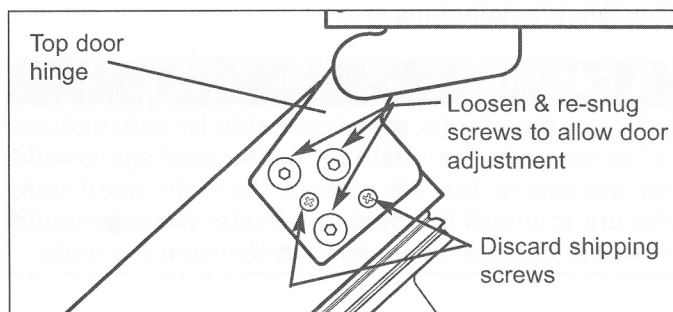

Figure 2-5. Top Door Hinge & Screws
1. Working on only one hinge at a time (top or bottom), remove and discard two small Phillips head shipping screws from door hinge before attempting adjustments (See Figure 2-5).
2. Loosen and re-snug door hinge mounting screws, allowing door adjustment (See Figure 2-5).